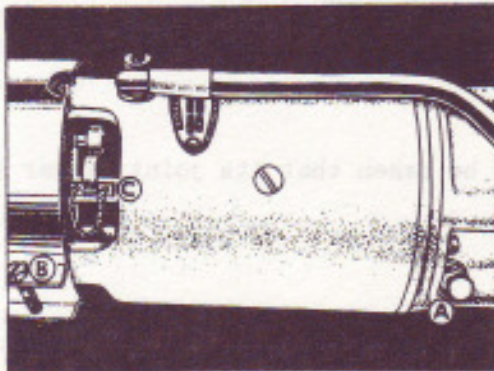

FIG. 19. STARTER MOTOR.
(1) The starter motor reduction gear is arranged in a casing behind the motor, the plug (A, Fig. 19) in the side of the gear casing, should be removed and oil "B" injected until it reaches the mouth of the plug orifice.
(2) Inspect the brushes for wear; to do this, slack off the cover clamping screw (B, Fig.19) and slide the cover to expose brushes. Clean out carbon dust, and should the brushes (C) need renewing, make sure they bed correctly on the commutator.